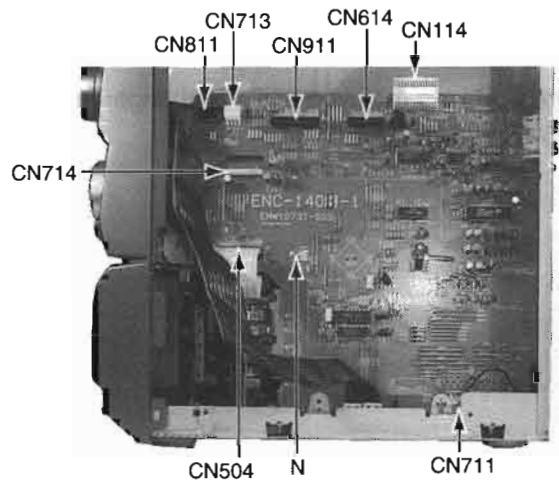

Fig 11
- 3.Disconnect the connectors and flat wires. (See Fig.11)
- 4.The connector CN711 is extracted from power supply P.C.Board. (See Fig.11)
- 5.One screw N is remove and main P.C.Board is removed. (See Fig.11)